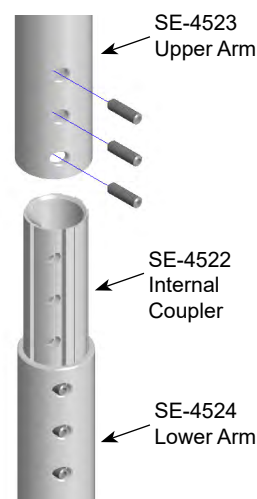

Figure 2
2. Slide the SE-4523 Upper Arm over the SE-4522 Internal Coupler and align the 3 holes of the coupler with the holes in the arm. Insert 3 of the supplied set screws through the holes in the arm into the coupler. Do not tighten at this time (Figure 2).